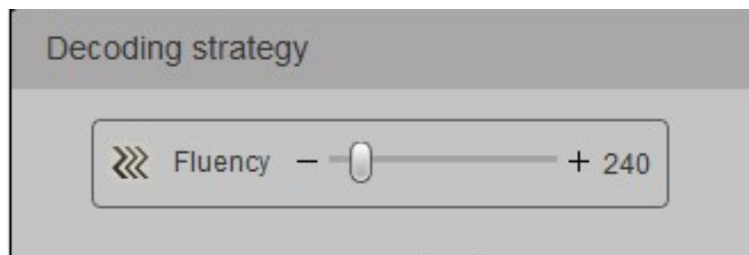

Figure 4-25
Step 1 Select network signal window and click . The system displays "Decoding Strategy" interface, as shown in Figure 4-25.